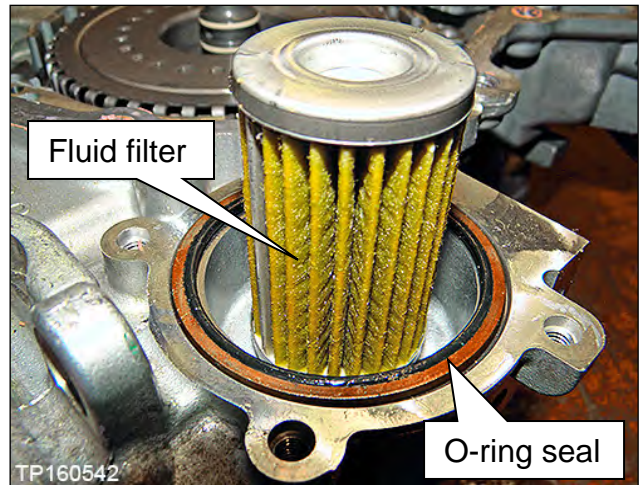

Figure 58
- b. Remove the CVT fluid filter with grommet seal and O-ring seal (Figure 58).